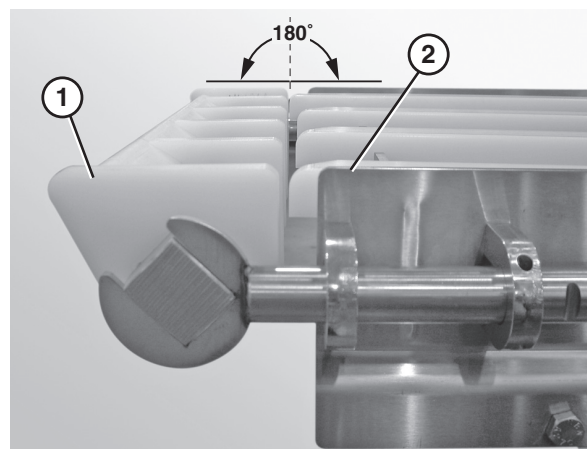

Figure 17
3. Ensure that the nose bar pucks (Figure 17, item 1) are in line with the conveyor frame (Figure 17, item 2).